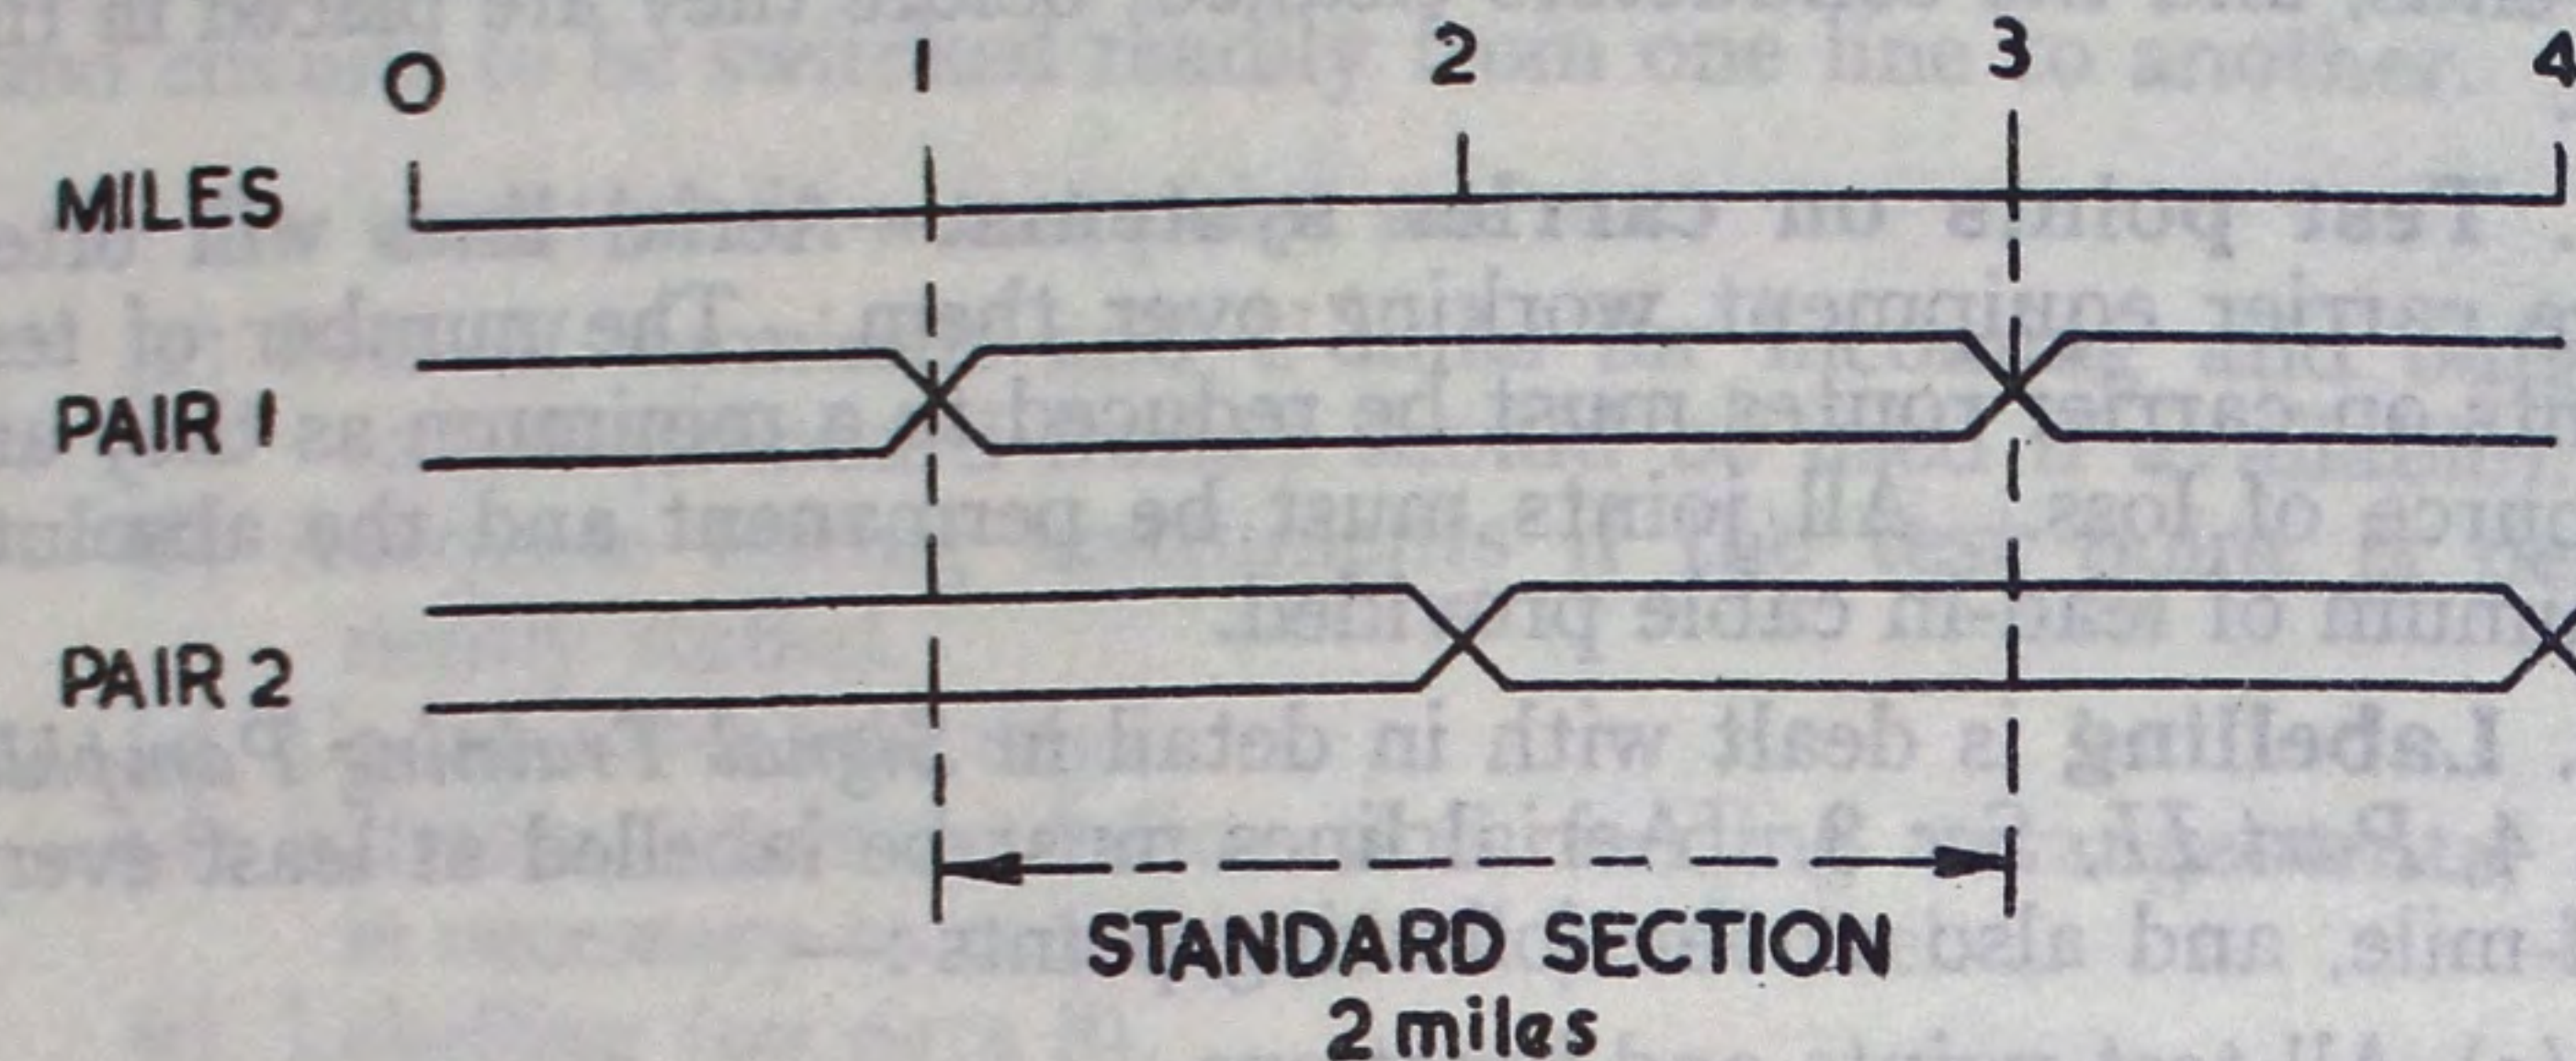

Fig 5.—Standard transposition section for audio routes
7. **Standard transposition system for audio routes.**—Each pair of wires is crossed separately every alternate mile (see Fig 5).